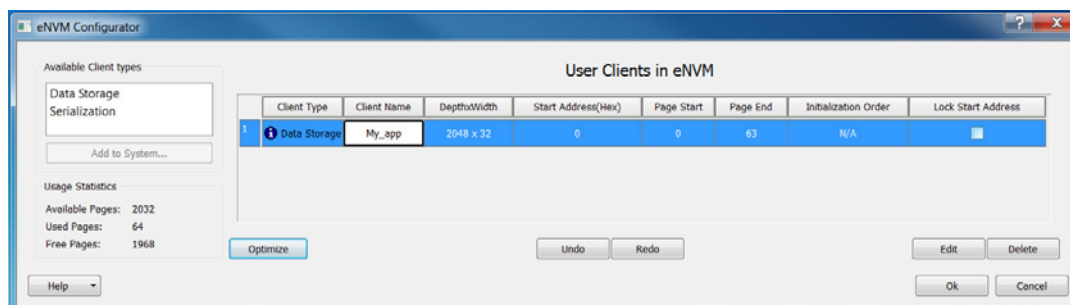

Figure 2-11 • User Client created in eNVM
13. Click **OK** to close the dialog box. The Data Storage Client is created with the correct depth and width (Figure 2-11).